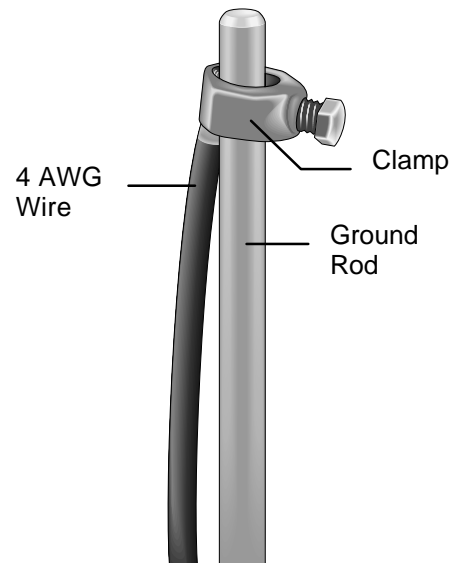

FIGURE 2-4. Ground Rod and Clamp
2. Loosen the bolt that attaches the clamp to the ground rod. Strip 1 inch of insulation from one end of the 4 AWG wire and insert it between the rod and the clamp. Tighten the clamp bolt (Figure 2-4).